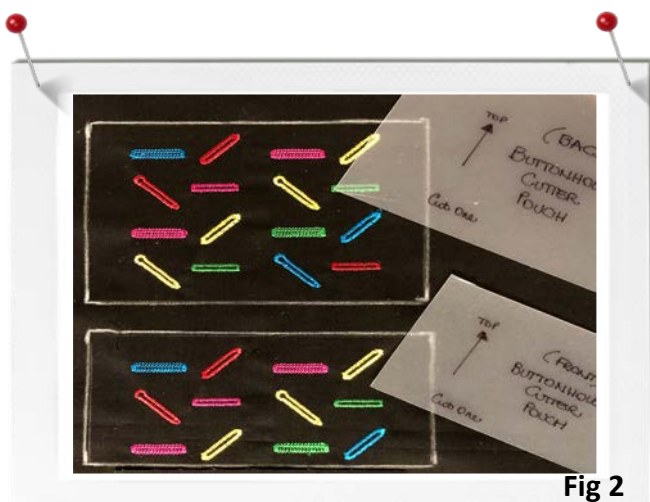

Fig 2
- Position Front and Back templates onto the finished embroidered piece and trace around with a chalk marker. See Fig 2. If you are using a Feature printed fabric, you will need to have some iron on interfacing fused to the lining fabric, and then grid some lines and sew to hold all three layers together.